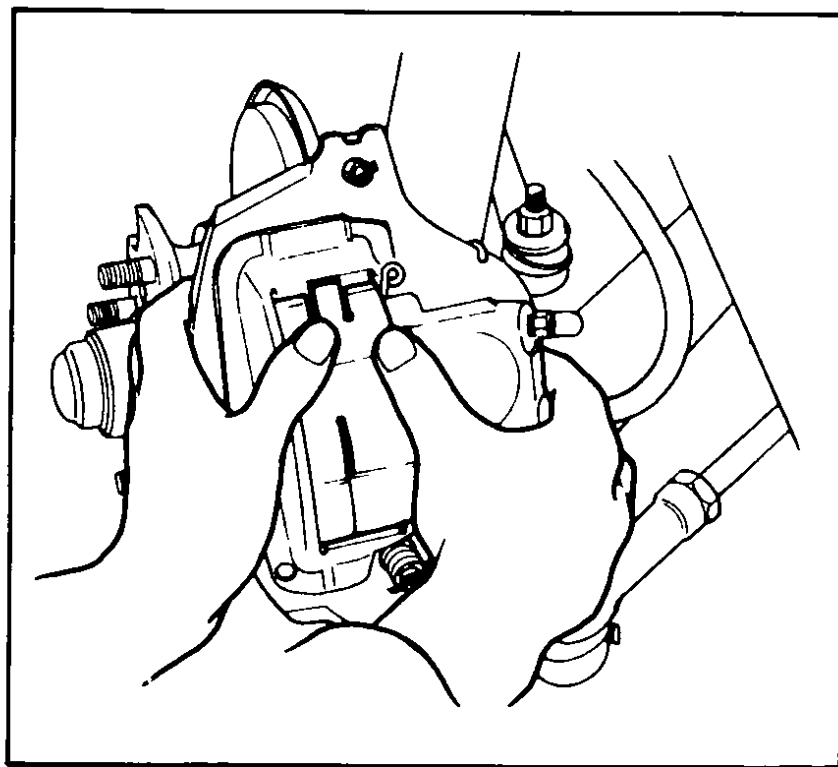
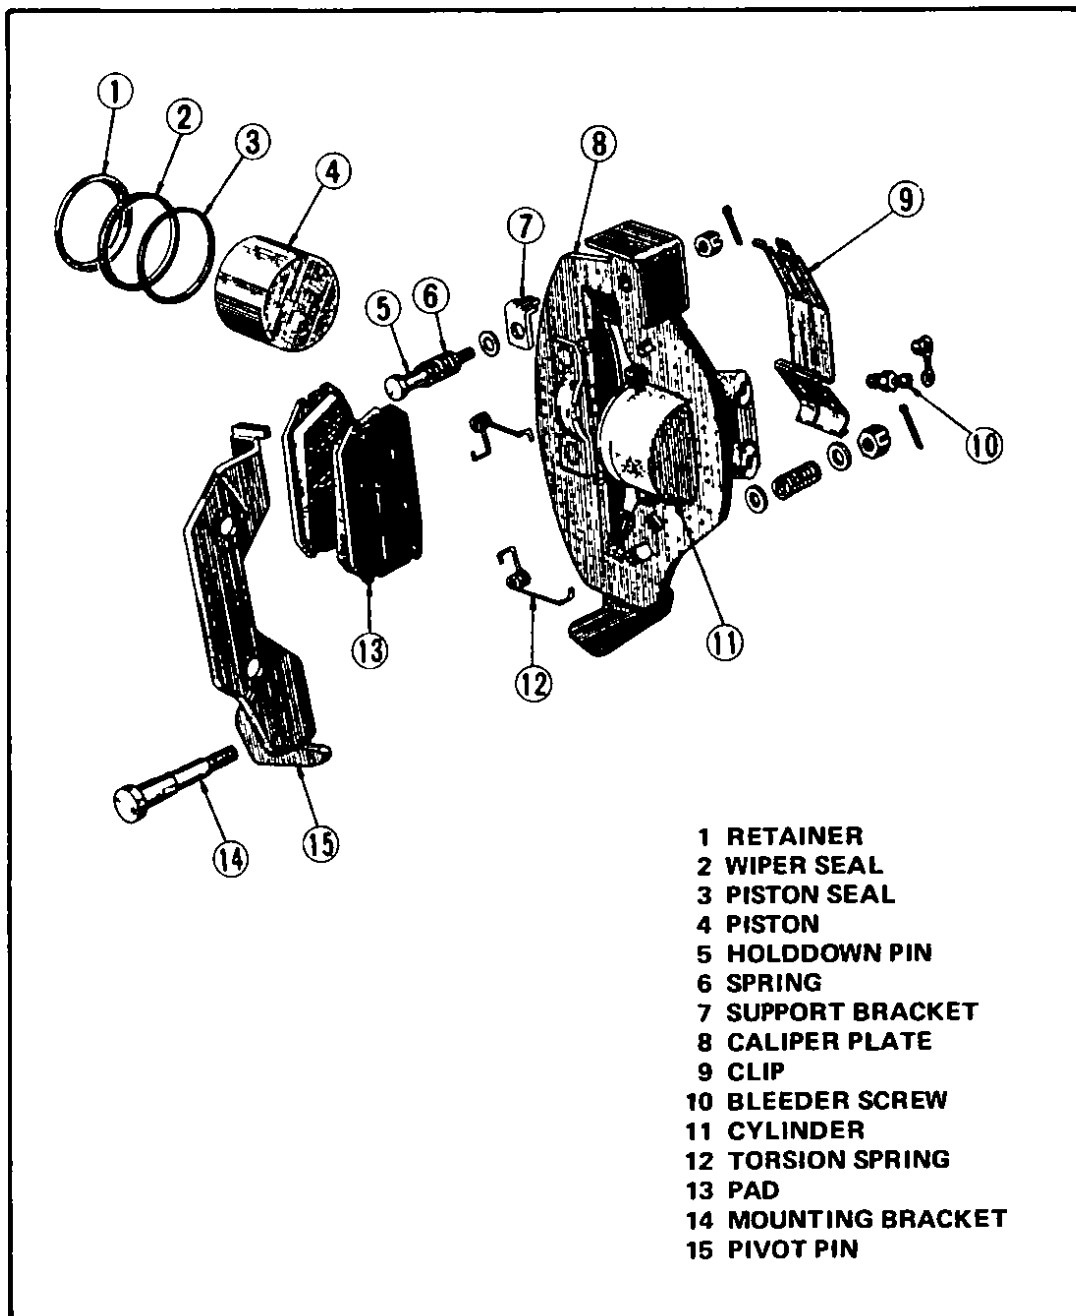

Fig 112 Removing clip – Model 710
Fig 113 Front brake – Model 710
- 2 Push the upper portion of the clip to release clip, Fig 112, and insert a screwdriver into back of pad on opposite side of piston. Remove caliper plate, Fig 113, to extreme outer end.